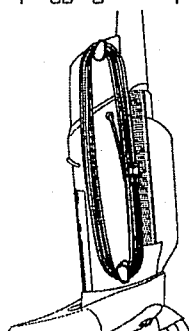

Figure 5a
2. Wind the Cord around the Upper and Lower Cord Hooks on the side of the Vacuum Cleaner. Turn the Upper Cord Hook into the up position and the Lower Cord Hook down to store. (See Figure 5a.)